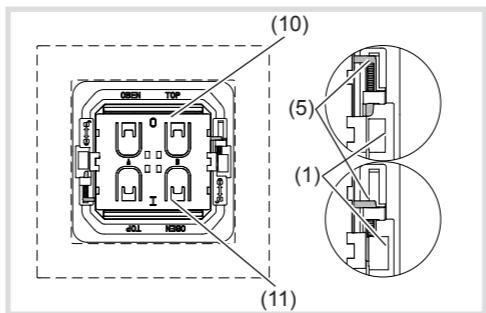

Figure 4: Unlocked and locked radio module
- Place the frame (2) onto the supporting plate along the locking spigots (1).
- Place the EnOcean radio module (3) onto the supporting plate over the locking spigots. In so doing, observe the labelling in the centre of the module – 0 must be at the top (10) and I at the bottom (11).
- Push the yellow locking pins (5) on the left and right of the radio module upwards/downwards under the locking spigots (1) up to the stop (Figure 4).
- Place the rocker (4) onto the radio module in the right position and push it on until it engages.